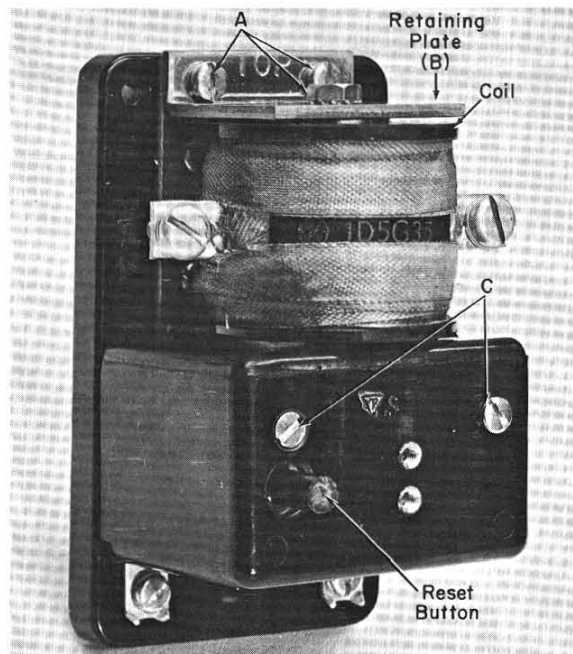
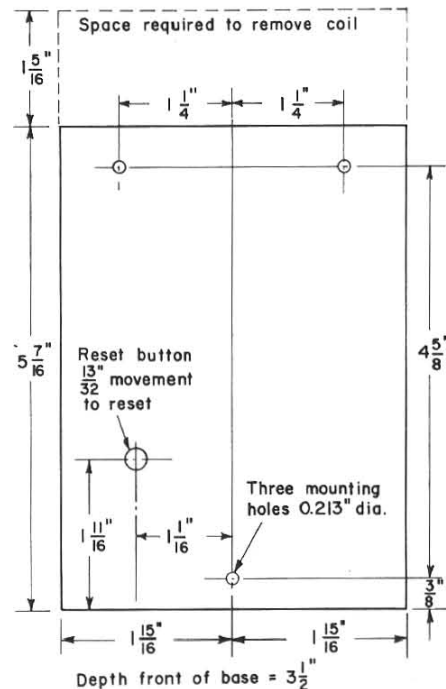
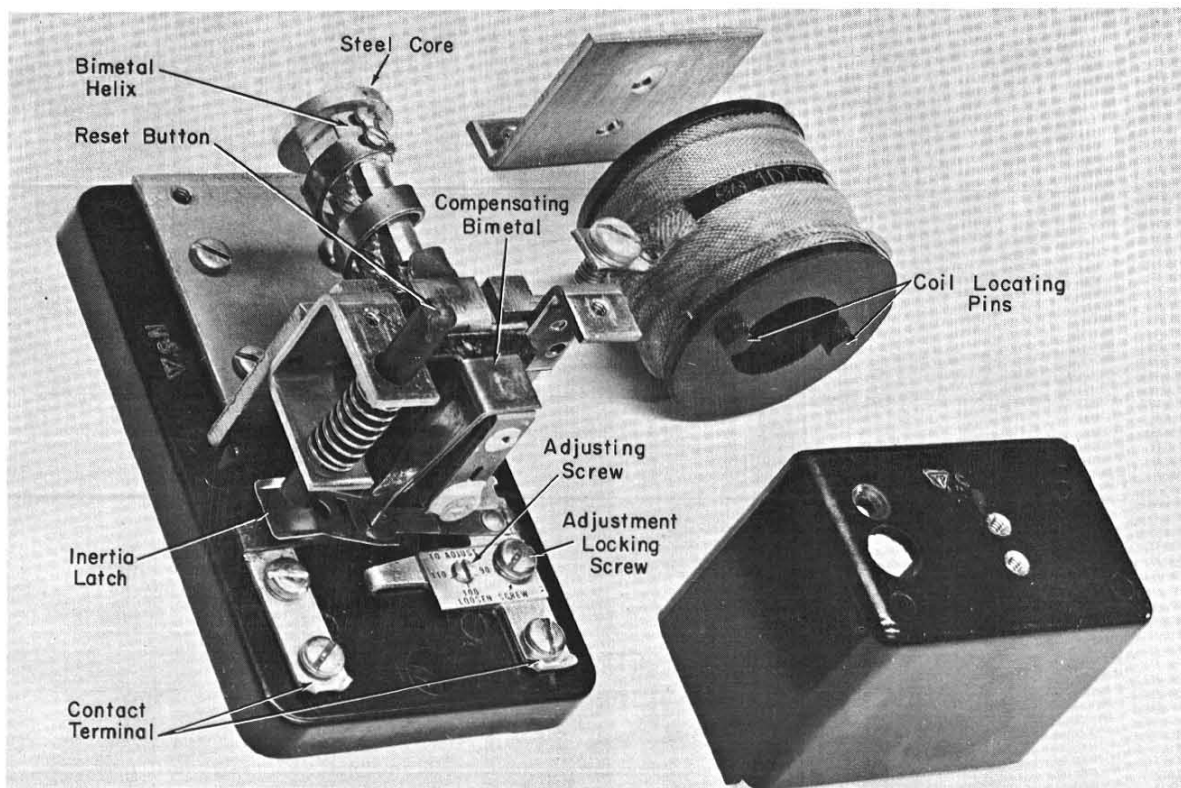

Fig. 1. IC2824-34C thermal induction overload relay
Fig. 5. Panel layout dimensions.
Fig. 6. Relay with coil and cover removed.
Install the relay in a vertical position with the coil at the top, as shown in Fig. 1. Panel layout dimensions are given in Fig. 5.
If it is necessary to adjust the relay trip, the cover must be removed in the following manner, in order to reach the adjusting screw: (Refer to Fig. 1) First remove the retaining screws (c). If the cover is of the type held by retaining pins, it will also be necessary to remove the three screws (A), the re-
To make the trip adjustment: Loosen the adjustment locking screw, turn the adjusting screw as required, and retighten the locking screw. Reassemble the relay, taking care to mount the coil with the two locating pins (see Fig. 6) on the lower side and the retaining plate (see Fig. 1) squarely against the end of the coil core.
To replace the coil: (see Fig. 1) Remove the three screws (A) and retaining plate (B). Be sure the two locating pins on the lower side of the new coil (see Fig. 6) engage the corresponding holes in the relay frame and that the retaining plate rests squarely against the end of the core.